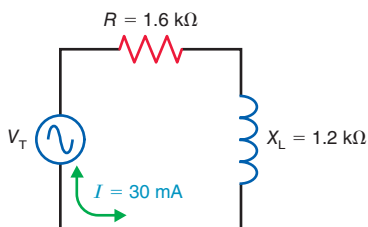

Figure 20-14
- 20.8** In Fig. 20-14, solve for